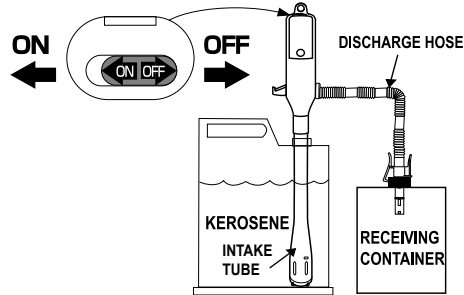

Fig. 2
2. Immerse the suction pipe into the tank you wish to pump from and insert the discharge hose into the tank you wish to fill. (See Fig. 2)